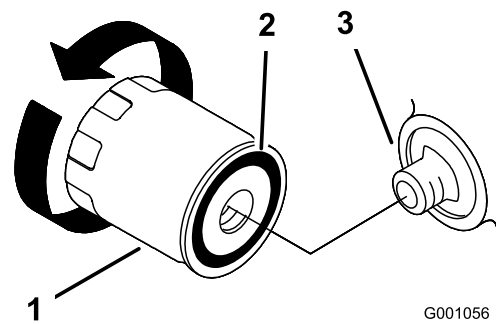

Figure 35
2. Remove the old filter and wipe the filler adapter gasket surface (Figure 35).
5. Apply a thin coat of new oil to the rubber gasket on the replacement filter (Figure 35).
6. Install the replacement oil filter to the filter adapter, turn the oil filter clockwise until the rubber gasket contacts the filter adapter, then tighten the filter an additional 2/3 to 1 turn (Figure 35).